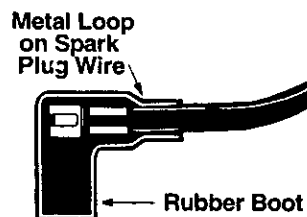

Figure 14
- Attach spark plug wire to spark plug. Make certain the metal loop on the end of the spark plug wire (inside the boot) is fastened securely over the metal tip on the spark plug. See Figure 14.